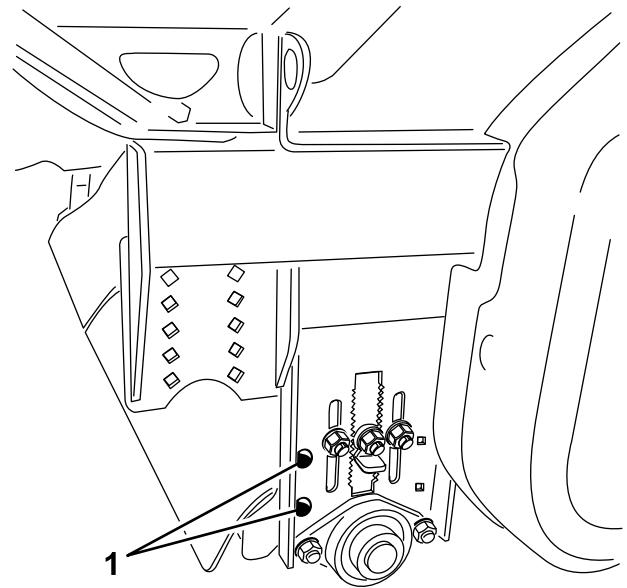

Figure 33
1. Loosen the roller scraper adjusting fasteners (Figure 33).